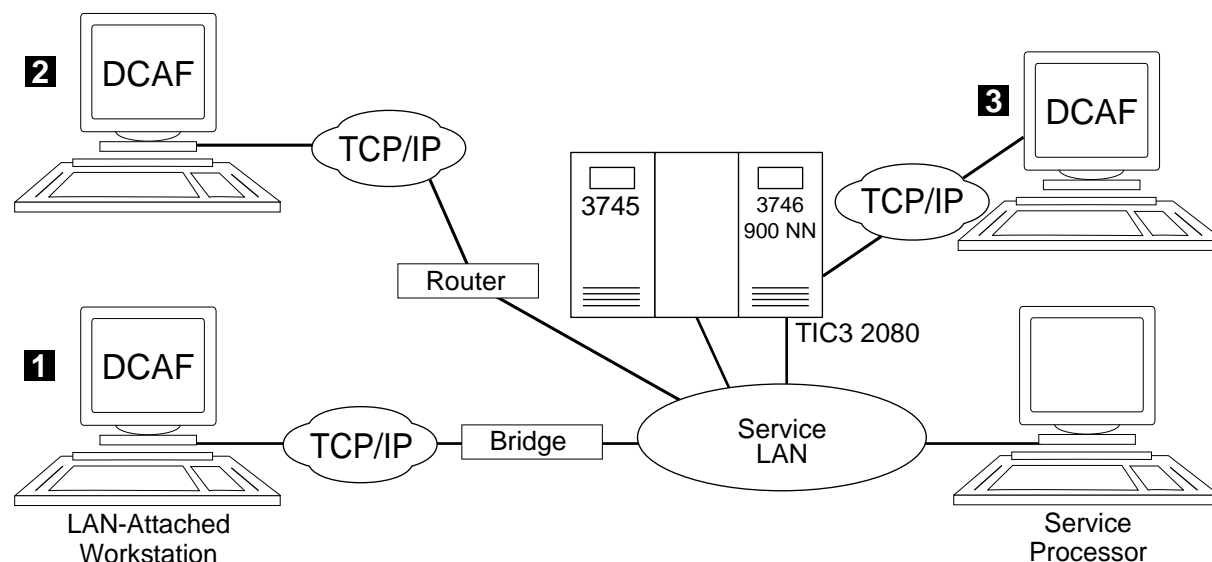

Figure 4-1. Token-Ring LAN (TCP/IP Type) Configuration
Step 6. If you have a link type **3** (Figure 4-1 on page 4-1), enter the TIC3 2080 address in the **SP default router** and click **Next** and **Close**. Otherwise, click **Next** and **Close**.